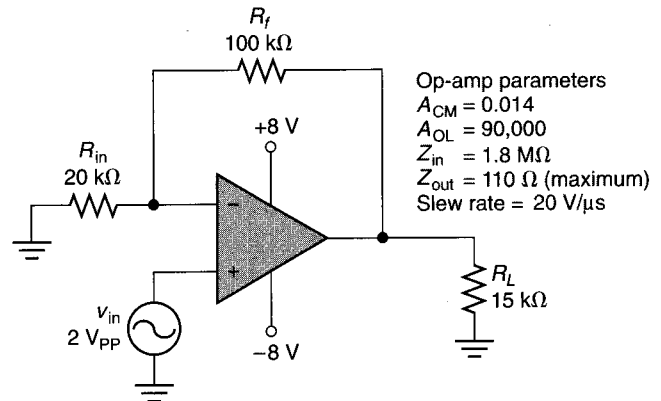

FIGURE 15.64
22. Perform a complete analysis of the amplifier in Figure 15.64.